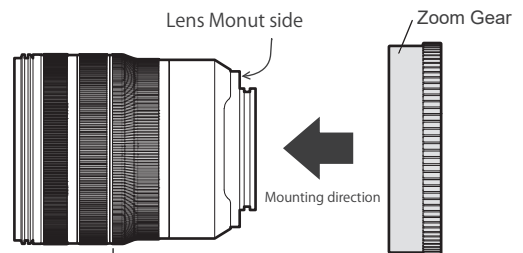

Fig.1
1 Attach this product to the lens in parallel alignment with the lens as shown in Fig.1
- Please make sure to insert the zoom gear from the lens front side.(Fig.1)